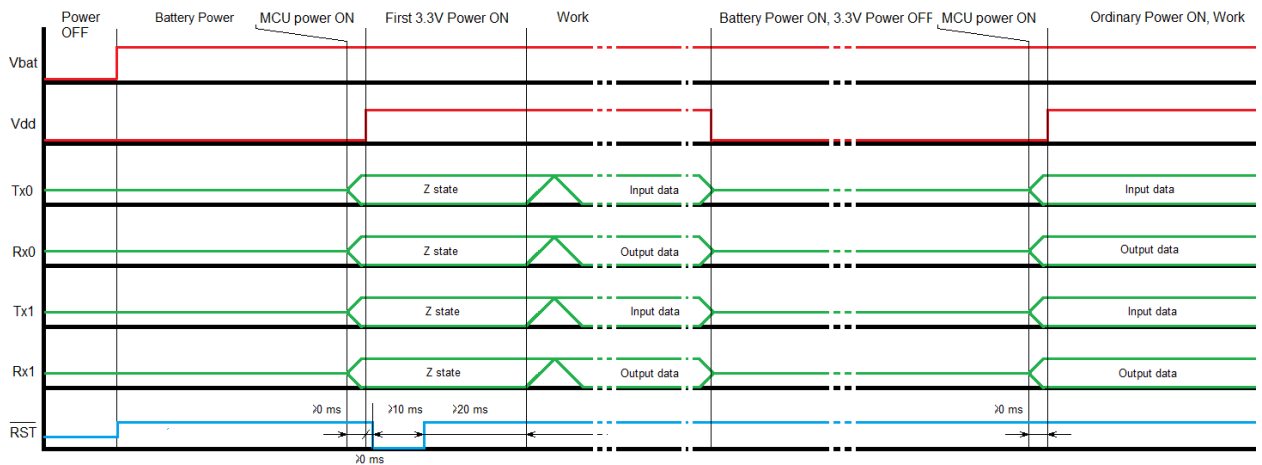

Fig. 6. The signal states and levels timing diagram at the module connection terminals at  $V_{bat}$  application.
**AT ONLY A FIRST TIME of the module supply voltage  $V_{dd}$  is "ON" following  $V_{bat}$  also "ON", be sure to send a low logic level pulse to terminal pad 19 ( $\overline{RST}$  input).** This is required for selection of operation mode for the integrated microcontroller of the module (operation or storing of the program in the built-in flash SQI memory), for activation of the module internal FW and saving of its activation attribute into the storage latch register. The pulse duration must be at least 10 ms, the input voltage must not exceed 0.1 V, the source output capability must be at least 8 mA. At subsequent switching-on of  $V_{dd}$  supply voltage, sending of the pulse to  $\overline{RST}$  input is non-mandatory, since sending of this signal causes erasing of current time information in RTC, which increases the time of satellites searching and capturing. The signal states and levels timing diagram at the module connection terminals at  $V_{bat}$  and  $V_{dd}$  switching-on is shown in figure 6.